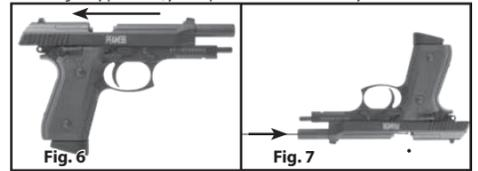

Fig. 6
3. Pull the slide to the rear and push the slide lock lever up to lock it in the rear position (Fig. 6).